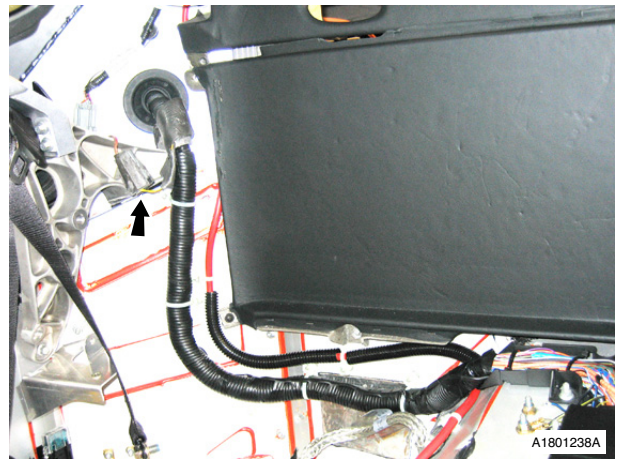

Fig. 22
57. Disconnect RH tailgate harness multiplug (clipped to body) (see Fig. 22).